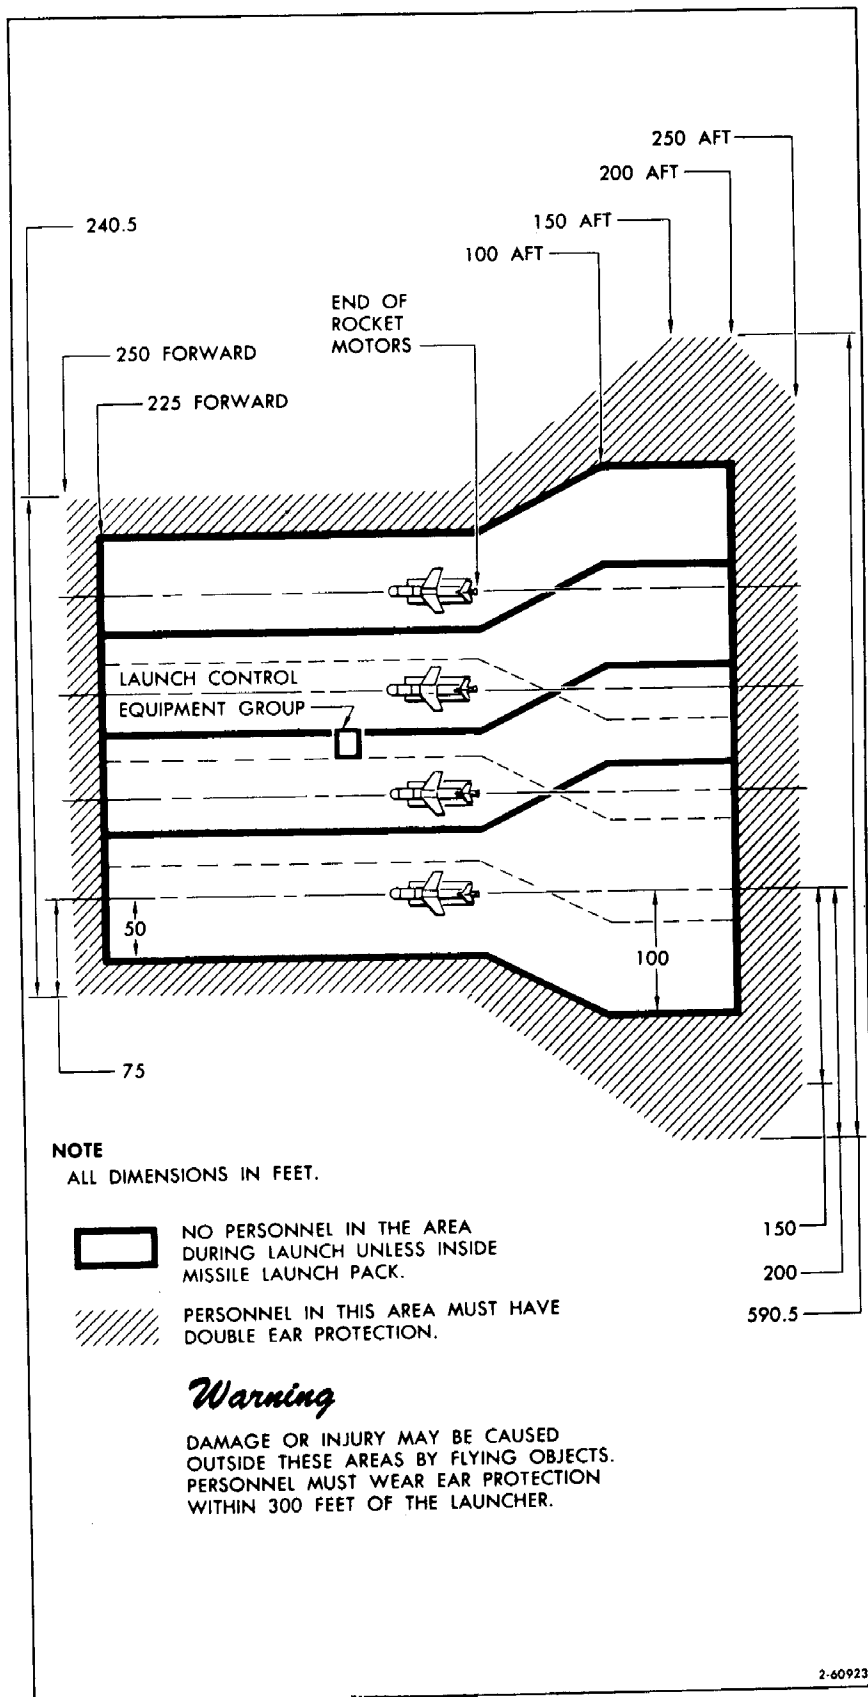

Figure 1-5. Rocket Motor Danger Area
(1) Maintenance functions are to be performed requiring power application to missile.
(2) Radome and/or base casting opened.
f. Insure that all personnel are clear of the Rocket Motor Danger Area during launch operations. (See figure 1-5.)